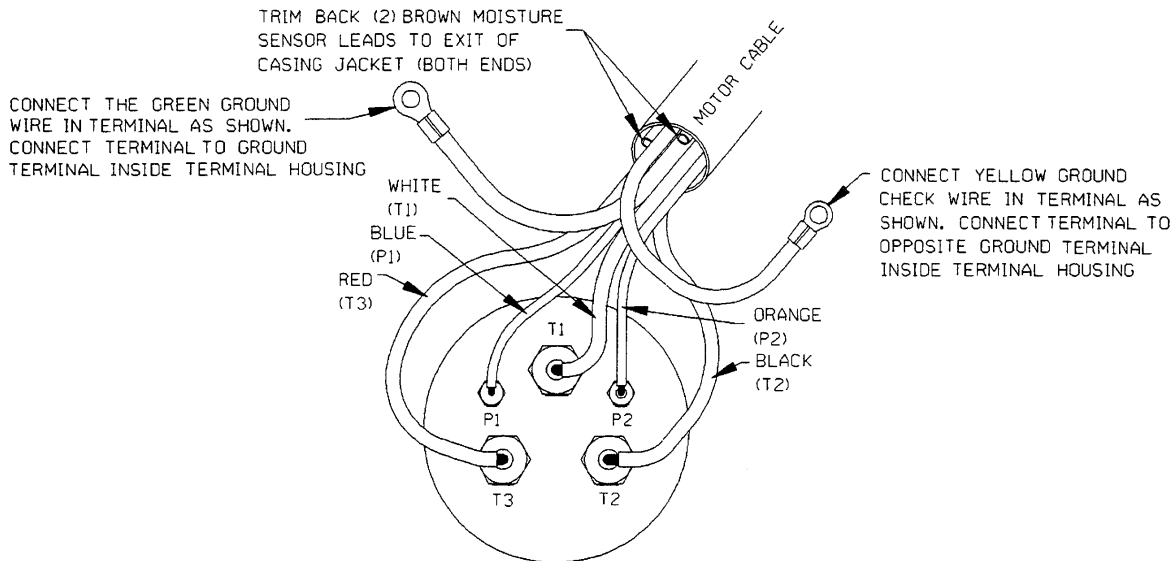

Figure C-5. Terminal Housing Wiring Connections
Slide a length of heat-shrink tubing up over each of the power cable leads. Insert the standard power cable leads into the large terminal collars (26), and secure them with the setscrews (27). Insert the two control leads into the small terminal collars (14) and secure them with the setscrews (13). See Figure C-5 for wiring connections.
See Figure C-5 and check terminal locations. Apply a 1/4 to 3/8 in. (6,4 to 9,7 mm) thick layer (maximum) of silicone adhesive around each of the ter-